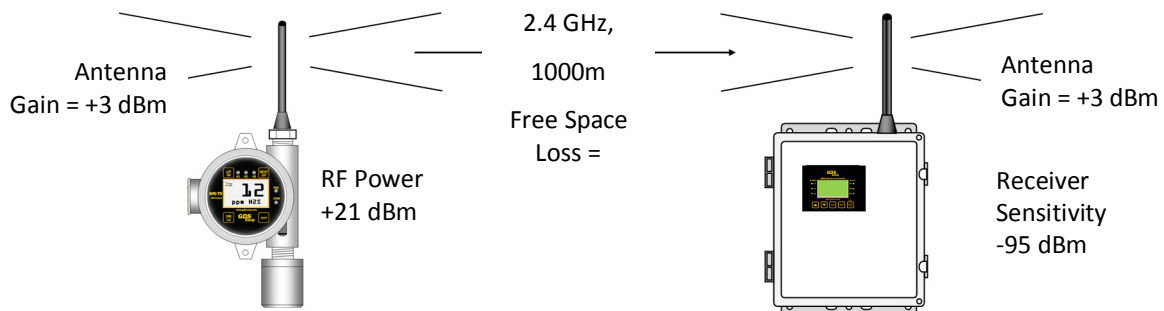

**Figure 5-1: GDS Corp Wireless System Architecture**
**TB3** provides a convenient connection point for external devices that require 24VDC. DC output is limited to 350 mA if using the internal DC supply. See Figure 5-1 for a more detailed description of the DC input and output options.
The Motherboard PCB contains a 24 VDC universal input (100-240 VAC) switching power supply with up to 350mA available at the TB3 Auxiliary Power Output terminals. If AC power is unavailable, or if a DC battery back-up supply is needed, TB1 provides terminals for DC power input. Blocking diodes isolate internal and external DC supplies as shown in Figure 5-1.